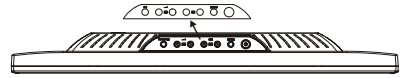

Figure 1-4
3. To tear off the label. (See figure 1-4)